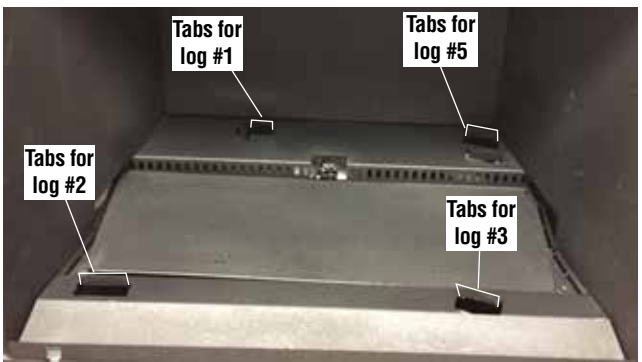

Figure 16 - Locate the log placement tabs, MPI27-B
- 1. If necessary, remove the glass door (*Page 30*). Locate and bend up Burner Locating Tabs (*Figure 16*).
- 2. Locate the log placement tabs (*Figure 16*). Place embers and other media.
3. Align the notches in the bottom of the rear log (1) with the left rear locating tabs (see **Figures 16 and 17**).
4. Position the left front log (2) on the left front log tab and the left burner locating tab (see **Figures 16 and 18**).
5. Position the right front log (3) on the right front locating tab and right burner locating tab (see **Figures 16 and 19**).
7. Position the right cross log (5) over the right rear locating tab (see **Figures 16 and 20**).